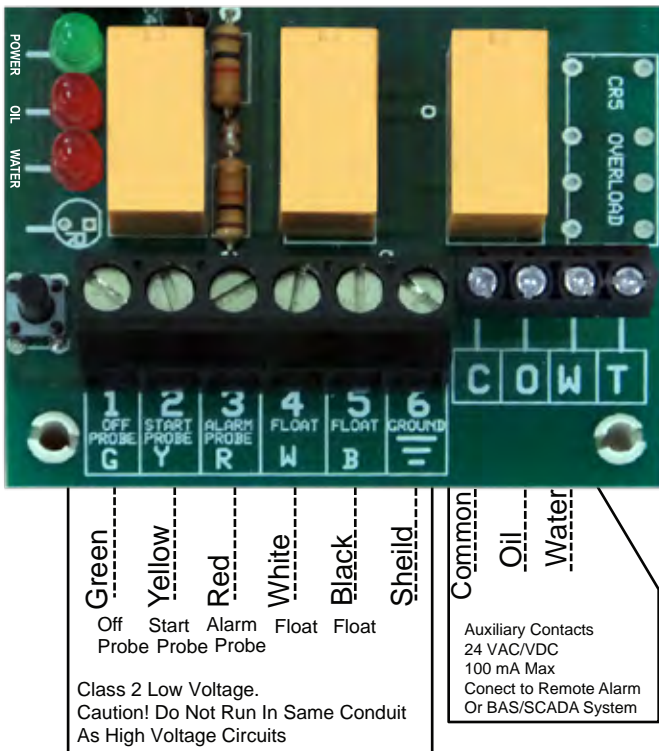

Figure 4
1. Review figures 4, 5 and 6.
1. To install/replace the battery for the backup power feature, remove the access cover (Fig. 1) and install 9 VDC battery (Fig. 2). After installing battery, press the test button (Fig. 3) to activate the alarm to make sure the battery works properly. The power indicator, high oil indicator and high water indicator light should illuminate and the buzzer should annunciate. If using the auxiliary contacts, leave cover off until step 3 is completed. If you are not using them, replace the access cover (Fig 4).
(Fig. 4)
2. (Press down and hold the tact switch on the circuit board - Fig. 2) while lowering the sensor into the bucket so the bottom and middle probes touch the water (Fig 3), the pump should activate. While the pump is activated, slowly remove the sensor probe out of the water until the longest probe is no longer in the water (Fig 4), then let go of the tact switch (Fig 2) and the pump should turn off. Repeat a couple of times for quality assurance.